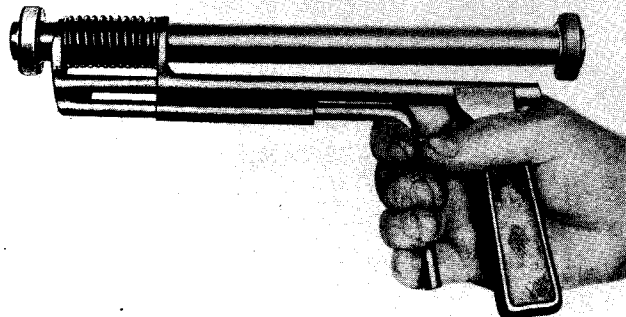

Figure 50. Pushrod Housing and Spring Compressor
b. Figure 50 illustrates the use of a locally manufactured spring compressor to facilitate installation of pushrod housings.
d. To install each pushrod housing, compress the spring and place on that end of the housing a sandwich of one red Silastic seal between two steel washers (see figure 50). Insert this end of the housing into the crankcase tappet guide until the other end and its seal ring can be aligned with the cylinder head opening. Move the assembly outward until the seal has entered the cylinder hole; then release the spring slowly until it is free, and remove the compressor.